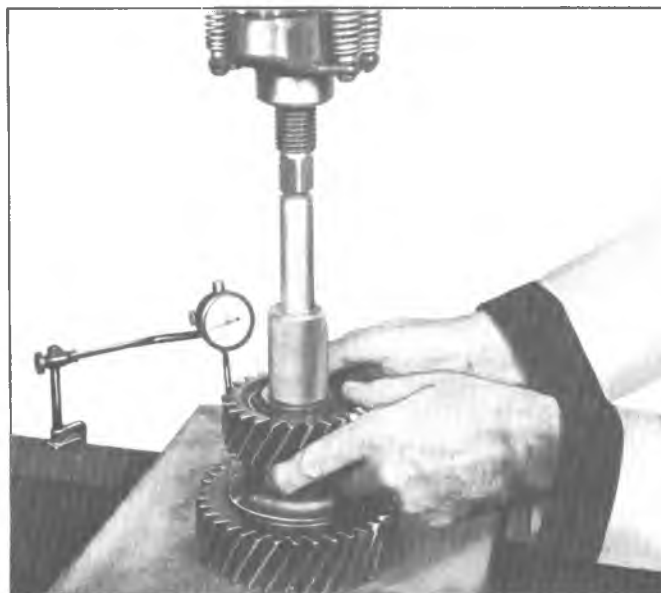

Fig. 11C-Checking Idler Gear End Play
2. Assemble the two bearing cones, spacer, shims and idler gear on dummy shaft J-23429 with bore up. Check end play (Fig. 11C). Limits are .000 to .002 inch.